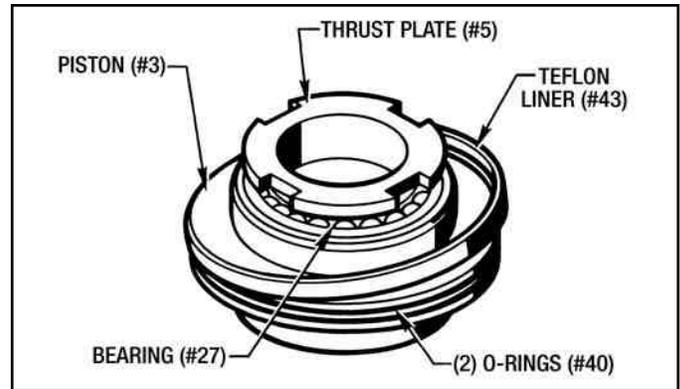

Figure 7.07 - Piston Sub-Assembly
3. Remove the Piston Sub-Assembly which consists of: (a) Thrust Plate (#5), (b) Piston (#3), (c) Bearing (#27), (d) Teflon Liner (#43) and (e) (2) O-Rings (#40).
4. The Teflon Liner (#43) and the (2) O-Rings (#40) can now be removed for inspection and replacement. (See Figure 7.07)